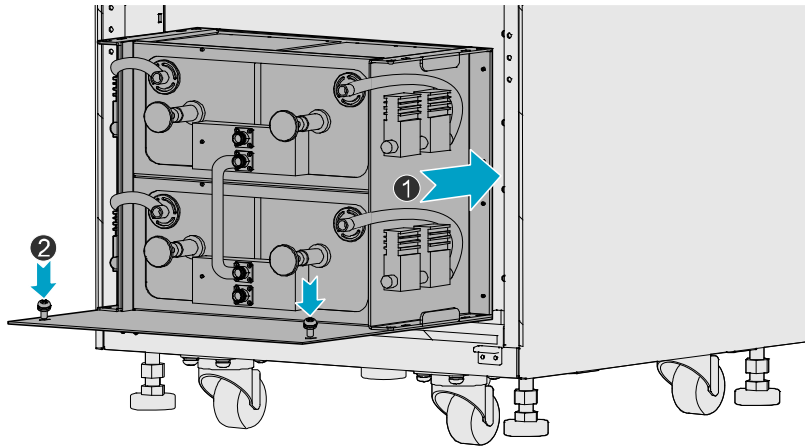

Figure 3-14 Installing the Combiner Unit
Step 6 Install the COM as shown in Figure 3-14.